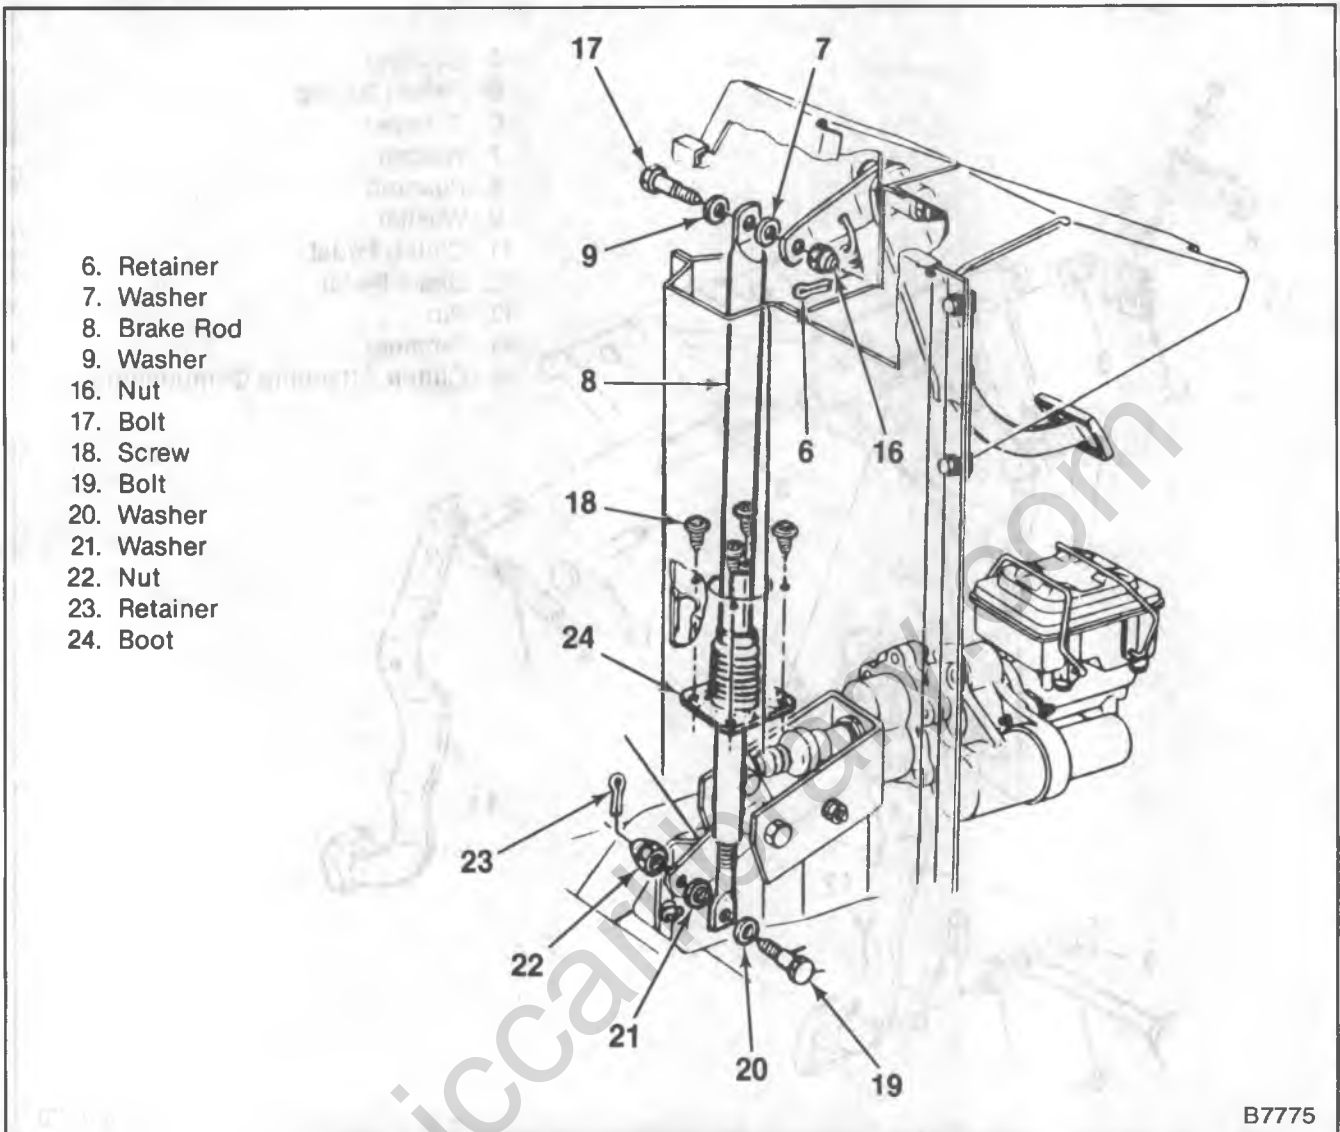

Figure 20—P30 Motorhome Brake Pedal Rod Components
↔ Remove or Disconnect (Figure 20)
↔ Install or Connect (Figure 20)
1. Nut (31) from the equalizer (32).
2. Connector (33) from the front cable.
4. Nuts (1) (figure 20).
5. Bolts (2) (figure 20).
7. Bend retaining rings (34) and (35).
9. Cable assembly (36).